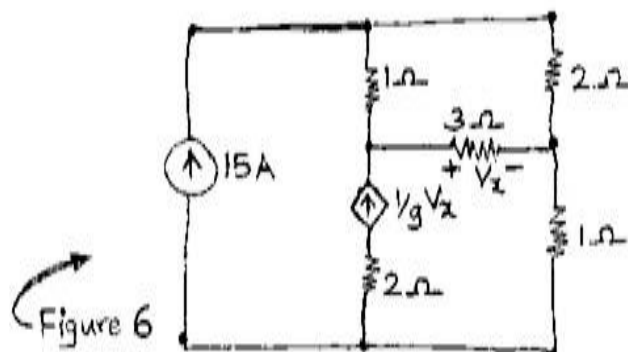

Figure 6
28. In the network shown in fig6, K is changed from position a to b at $t=0$, solve for i , di/dt , d^2i/dt^2 at $t=0^+$, Assume that capacitor is initially uncharged.